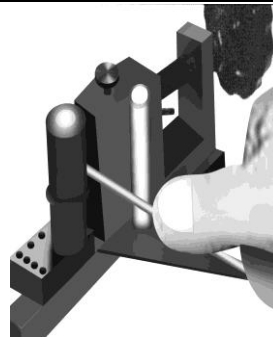

Figure 1
2. Put the material you wish to bend in between the selected shaft and the vise (#6) and clamp it down as shown in figure 1.